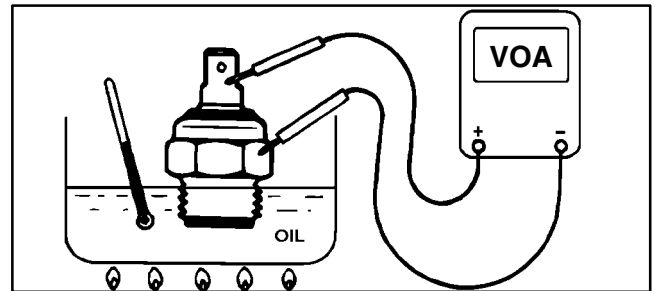

Figure 15
2. Put the switch in a container of oil with a thermometer and slowly heat the oil (Fig. 15).